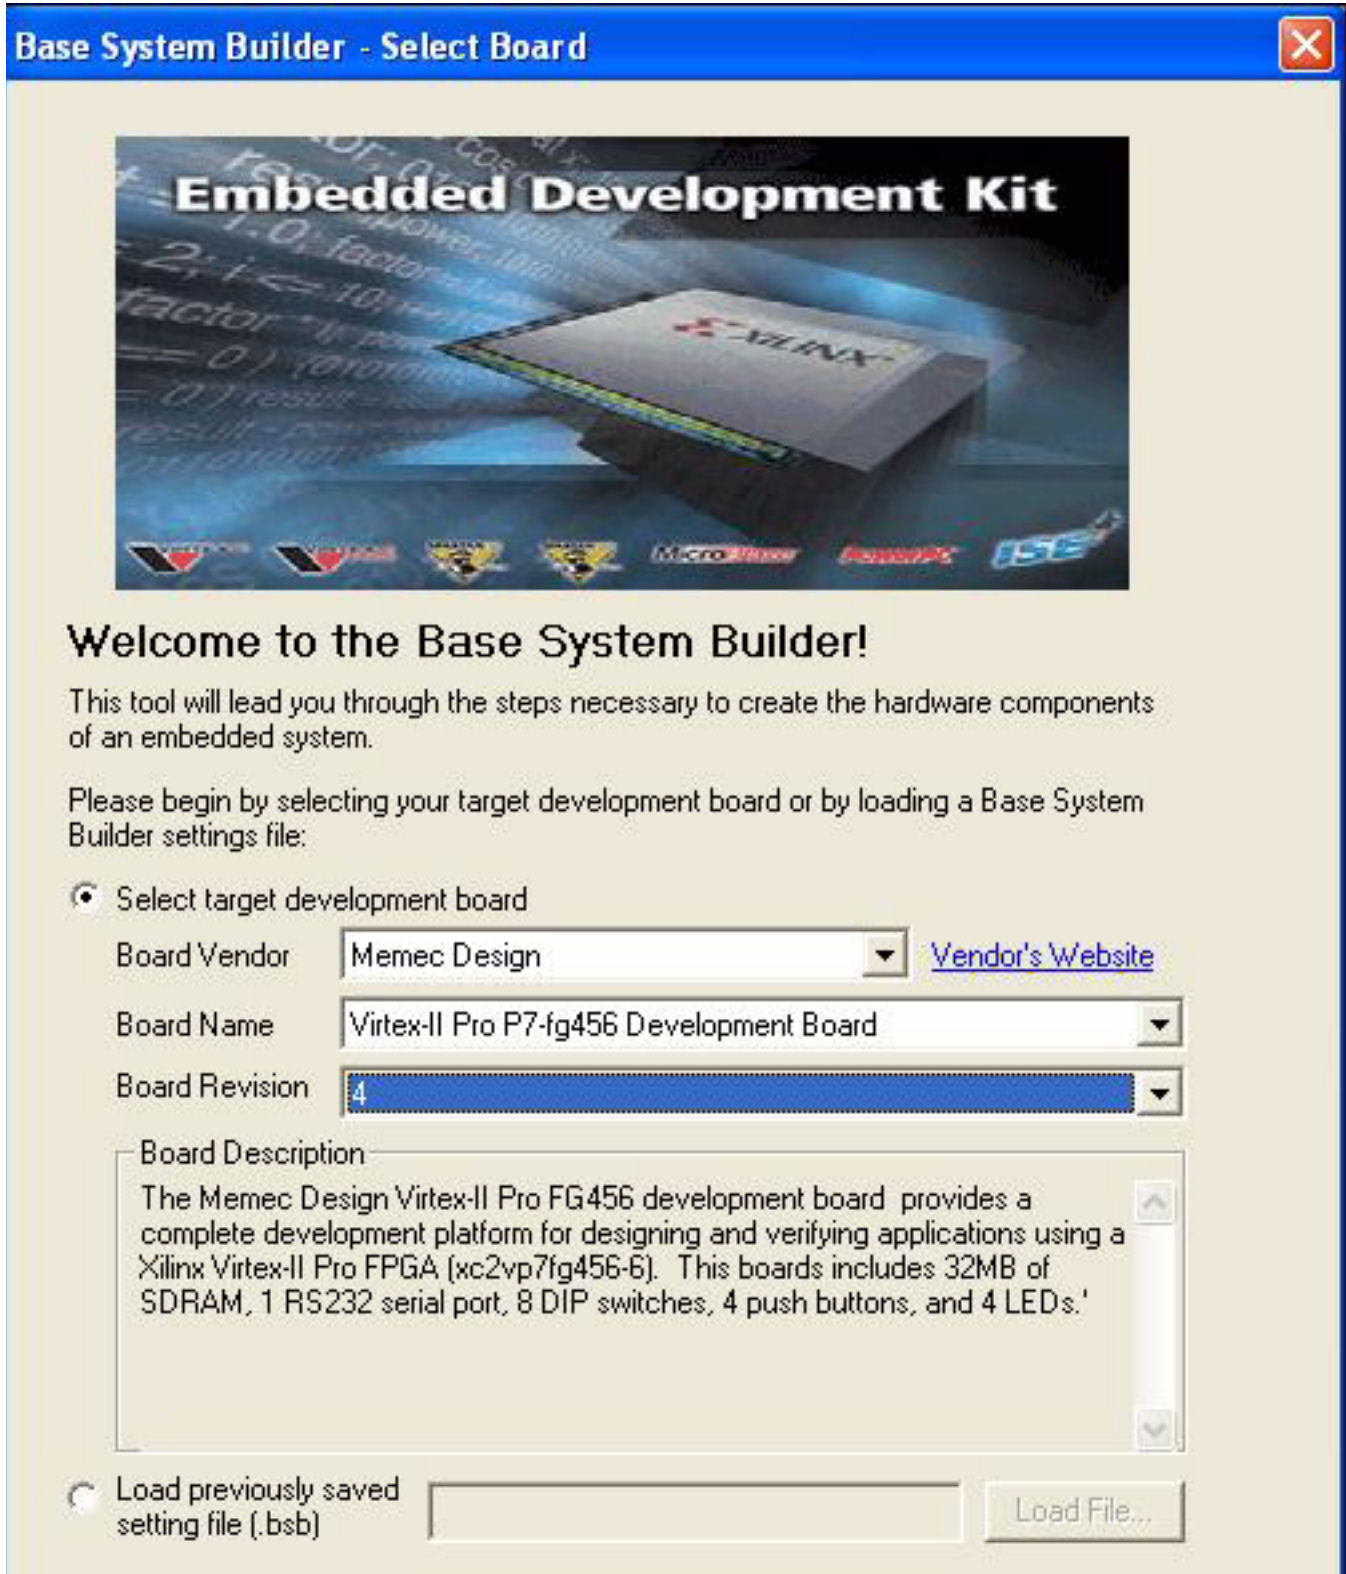

Figure 4: BSB: Select a Board
1. In the Base System Builder - Select a Board Dialog select the following, as shown in Figure 4: